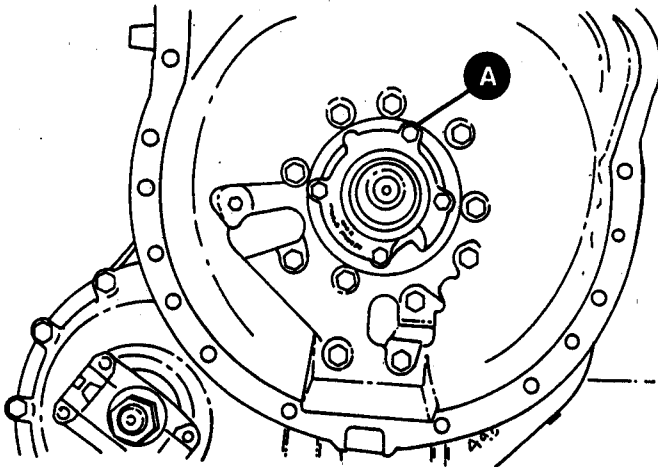

Figure 30.
34. Assemble pump (if disassembled). Install pump taking care to align mounting holes. Apply Loctite #270 to bolts (A, Figure 30) and, using a new sealing washers, tighten to a torque of 21 lb-ft. (28 Nm).